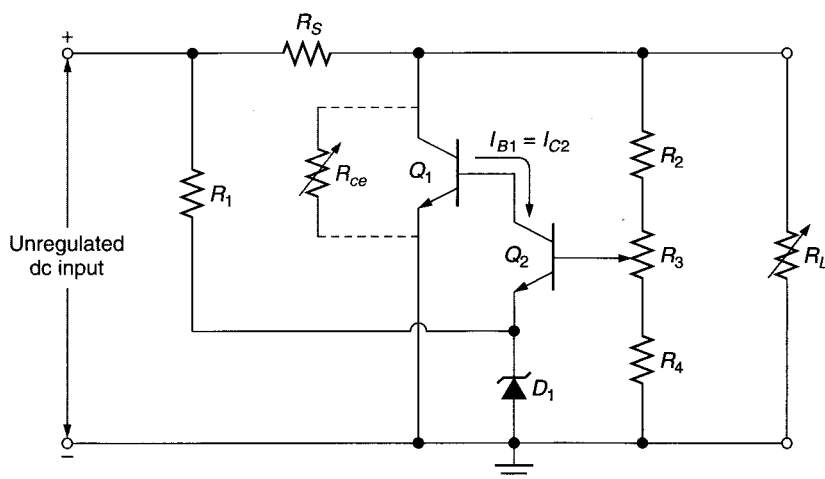

FIGURE 21.9 Shunt transistor in a shunt feedback regulator.
The **shunt feedback regulator** uses an error detector to control the conduction of a *shunt transistor*. This shunt transistor is shown as  $Q_1$  in the shunt feedback regulator in Figure 21.9.
Several things can be done to ensure that any increase in unregulated dc input voltage will not destroy the shunt transistor. First, you can use a transistor whose  $P_{D(max)}$  rating is far greater than the maximum power dissipation that would ever be required in the circuit. For example, assume that the regulator in Figure 21.9 has an input voltage that can go as high as 20 V and that the regulator is designed to provide a regulated 10 Vdc output. The worst-case value of transistor current can be approximated using
6. Which of the transistors in Figure 21.9 requires a higher power dissipation rating than the other? Why?